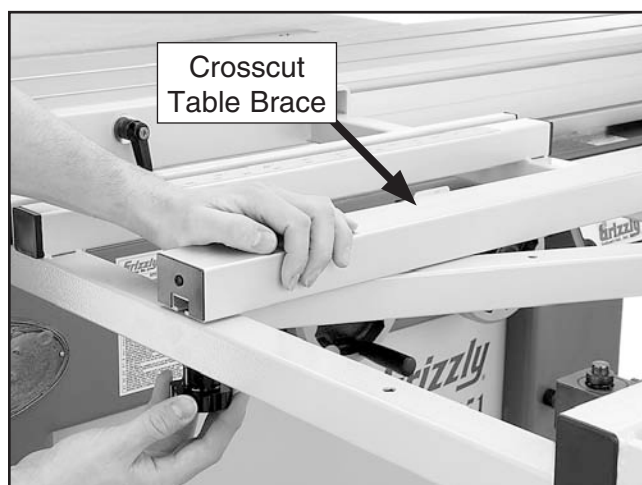

Figure 45. Installing the crosscut table brace.
39. Slide two M8-1.25 T-nuts into the crosscut table brace. Align the T-nuts in the crosscut table brace with the holes in the crosscut table, and thread the two M8-1.25 x 50 knobs, with two 8mm flat washers, into the T-nuts as shown in **Figure 45**.